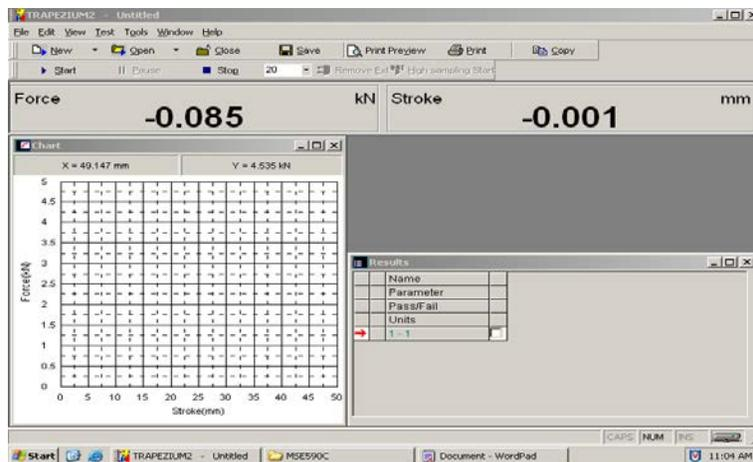

Figure 6.4 Window of TRAPEZIUM2 Software.
- (1). Go to desktop and double click on the “TRAPEZIUM2” icon. A “Login” window will appear. Go to the “Login” box and type **user** in “Username” box, and then type **user** in the “Password” box.
- (2). The main window will be displayed on the computer screen (Figure 6.4).